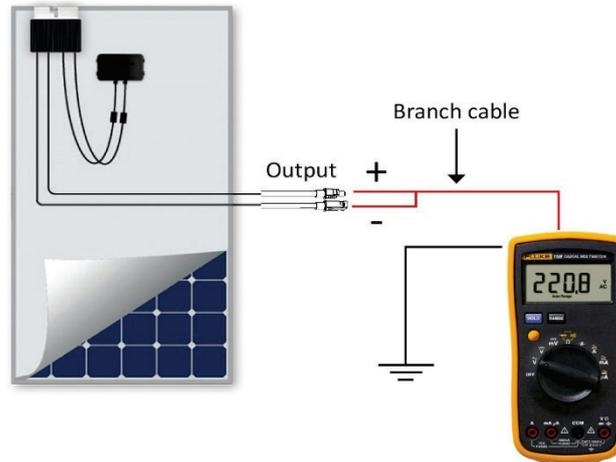

Figure 3: Connecting the insulation tester to the power optimizer and module
- 5** Test the *power optimizers' and modules' resistance* using the insulation tester (see Figure 3):